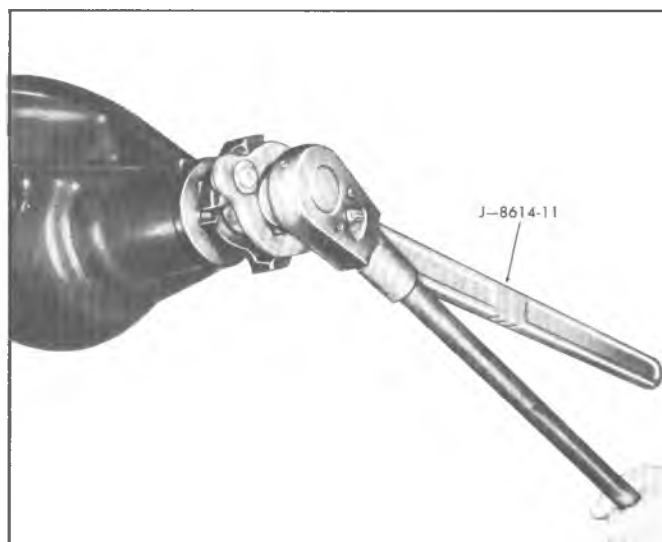

Fig. 12A—Drive Pinion Nut Removal
3. Install Holder J-8614-11 on flange by using two bolts with flat washers, as shown in figure 12A. Position J-8614-11 on flange so that the four notches are toward the flange.